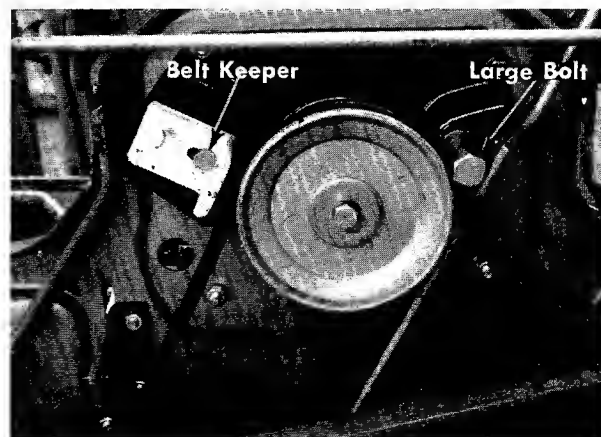

FIGURE 28. BELT KEEPER
- Step 2. Remove the belt keeper and large bolt on the engine pulley. See figure 28.
- Step 2. Remove the belt keeper and large bolt on engine pulley. See figure 28.